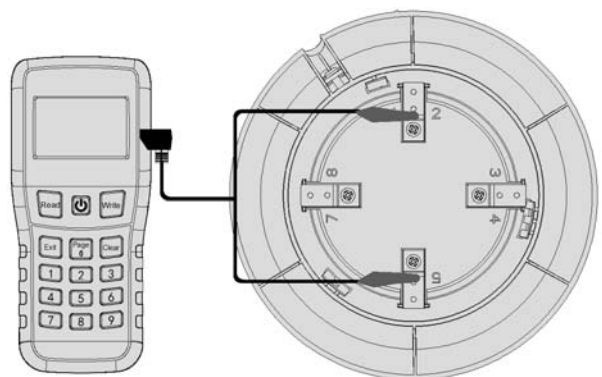

Fig.5 Connection of programming tool and Addressable Sounder Base
1. Connect the programming cable to Z1 and Z2 terminals, as shown in Figure 5. Press **"Power"** to switch on the unit. The main menu after the boot as shown in Figure 6.